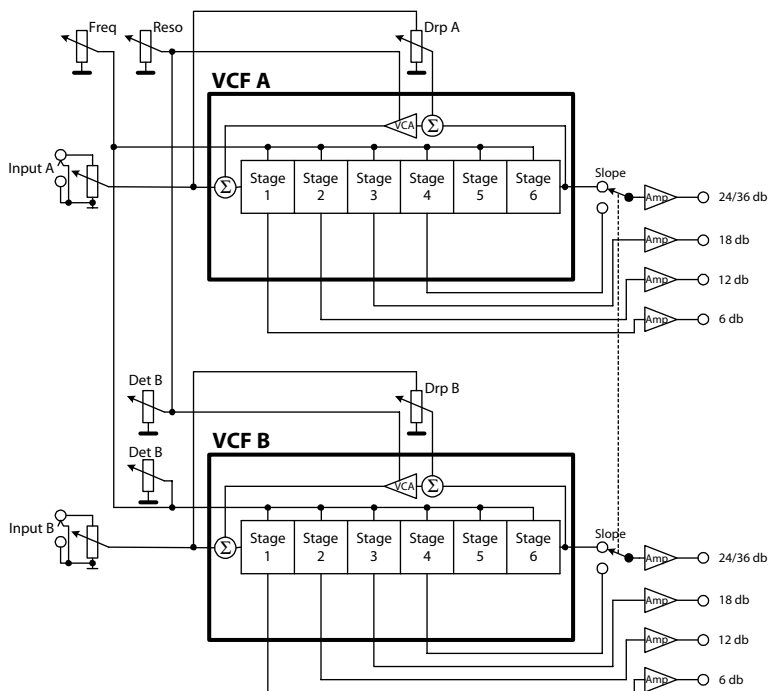
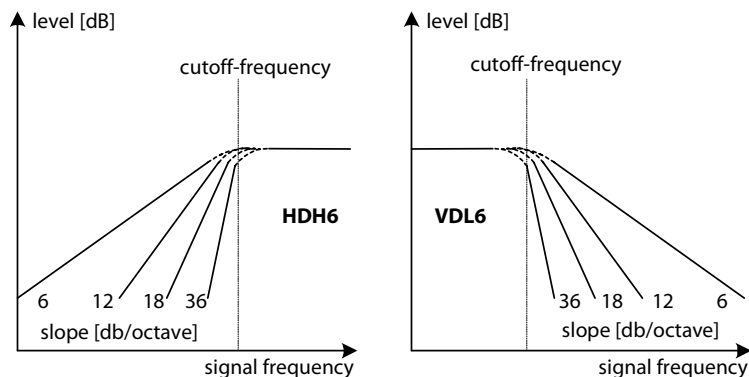

Fig. 3 Structure of HDH6/VDL6
Fig. 5 HDH6/VDL6 slopes
Fig. 3 shows the structure of the filters HDH6/VDL6. The CV-control jacks 10-14 for cutoff and resonance were omitted.
6 db, 12 db, 18 db, 24/36 db A/B-output jacks: The jacks (15-22) provides the different slopes at the filter stages 1, 2, 3, 4 and 6 (see Fig.3). The **slope switch** (23) selects for both filters VCF A and VCF B commonly the stage 4 (24 db/octave) or stage 6 (36 db/octave) for the output jacks 21 (VCF A) and 22 (VCF B). Fig. 5 illustrates for the **HDH6/VDL6** different slopes.